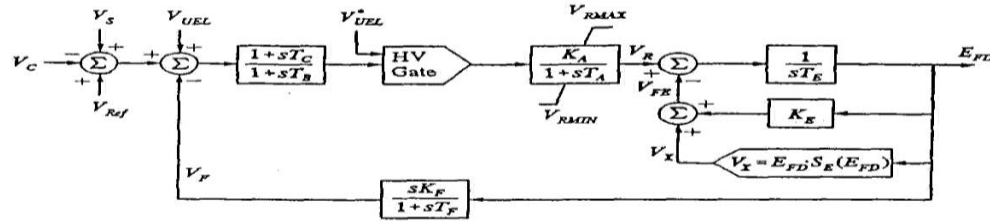

Figure 8.40: IEEE type DC1A excitation system model. ©IEEE 1991[8]
- Figures 8.40 to 8.43 show four examples